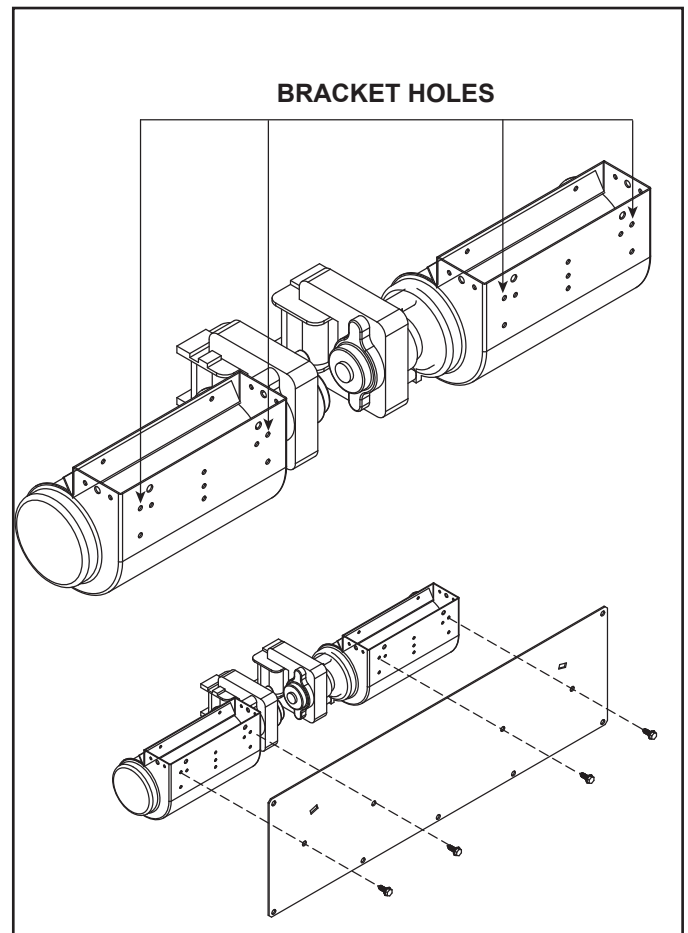

Figure 5. Attach Blowers to Access Cover
4. Screw blowers to access panel on rear of insert with four screws. See Figure 5.